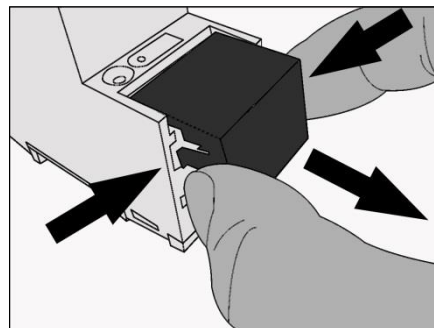

Figure 3
**Remove the cover cap, figure 3**
- Briefly press the programming button (1). Programming LED (4) lights up red.
- Assign the physical address. Programming LED (4) goes out.